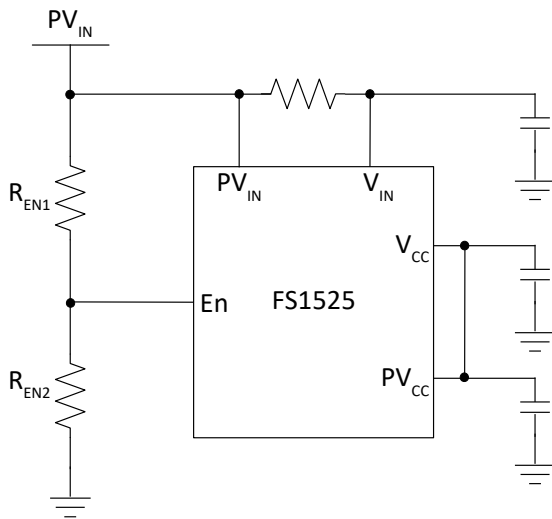
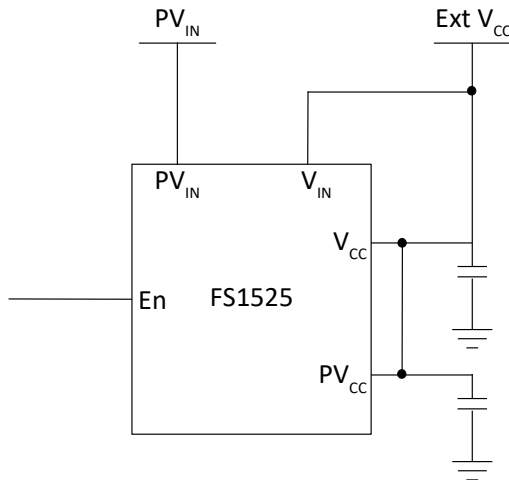

Figure 5 Single supply configuration: internal LDO regulator, adjustable PV_{IN_UVLO}
Figure 6 Using an external bias voltage
The FS1525 has an integrated Low Drop-Out (LDO) regulator providing the DC bias voltage for the internal circuitry. The typical LDO regulator output voltage is 5.2V. For internally biased single-rail operation, the V_{IN} pin should be connected to the PV_{IN} pin (Figure 5). If an external bias voltage is used, the V_{IN} pin should be connected to the V_{CC} pin to bypass the internal LDO regulator (Figure 6). There is a separate pin to provide bias for the drivers (PV_{CC}); this should be connected to V_{CC} in the application circuit. It is recommended that V_{IN} should have a minimum slew rate of 0.06V/ms. Note that PV_{IN} has internal undervoltage detection that latches the device if PV_{IN} drops below 4.2V.
- It can be used to implement a precise input voltage UVLO. The input of the En pin is derived from the PV_{IN} voltage by a set of resistive dividers, R_{EN1} and R_{EN2} (Figure 5). Users can program the UVLO threshold voltage by selecting different ratios. A useful feature that stops the FS1525 regulating when PV_{IN} is lower than the desired voltage, this may be used for finer control over the PV_{IN} UVLO voltage levels than is provided by the VIN_ON/VIN_OFF commands.